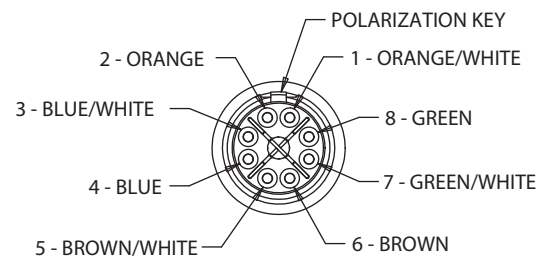

FIGURE 4
B. Insert each pair of wires into the appropriate quadrant on the isolator according to figure 3 for socket modules, and figure 4 for pin modules.
- C. Snap each contact into the appropriate position on the inner insulator. Refer to figure 3 for sockets and figure 4 for pins.